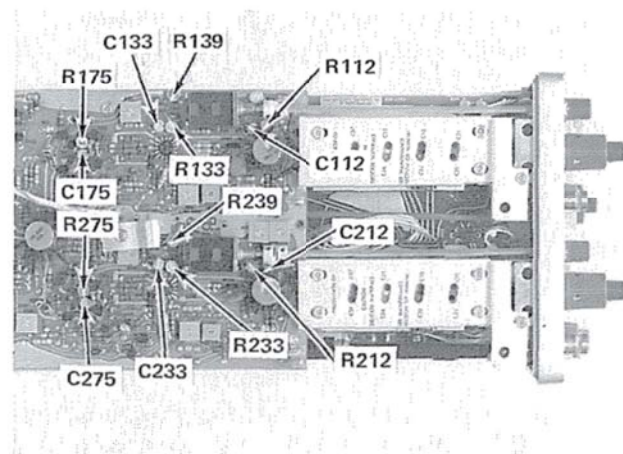

Fig. 5-17. Location of high-frequency compensation adjustments.
e. ADJUST—R139 and R475 (see Fig. 5-17 & 5-18) for the best flat-top waveform.